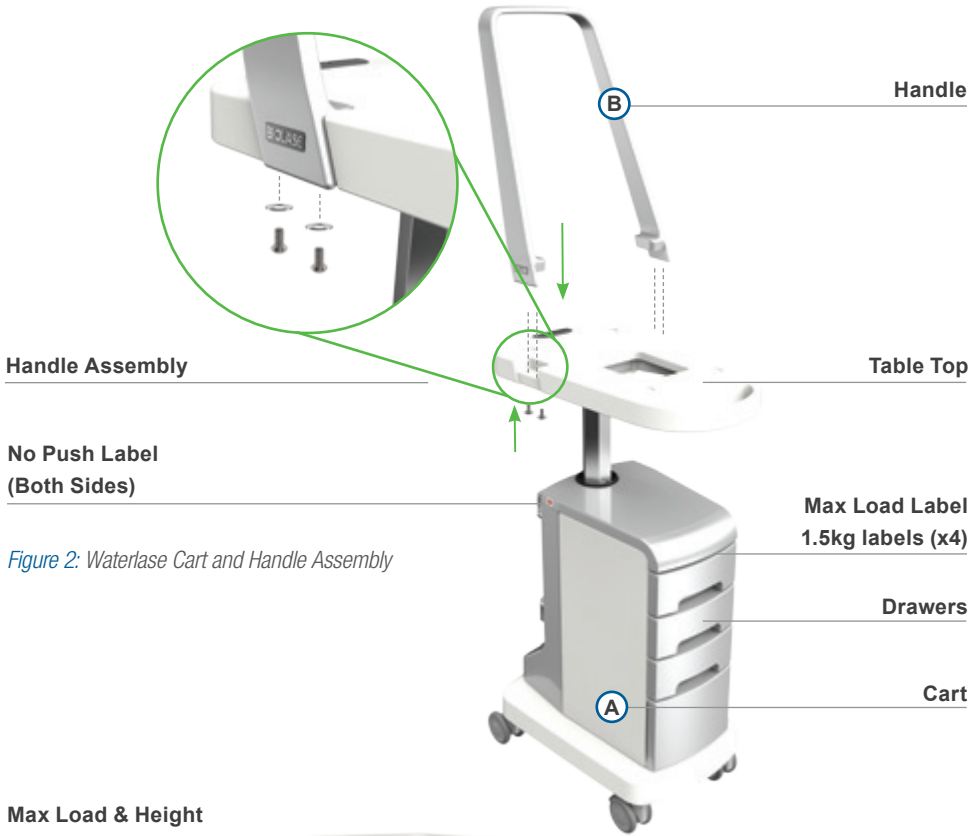

Figure 2: Waterlase Cart and Handle Assembly
2. Place 1 washer (**item F**) on each of the four button head cap screws (**item E**) and set aside. See **Figure 2** for reference.
5. While holding the handle in this position with one hand, take one of the button head cap screws with washer and locate the mounting hole underneath the table top. By hand, carefully thread the button head cap screw into one of the holes until it catches completely. Repeat on both sides until all four button head cap screws are installed. See **Figure 2** for reference.